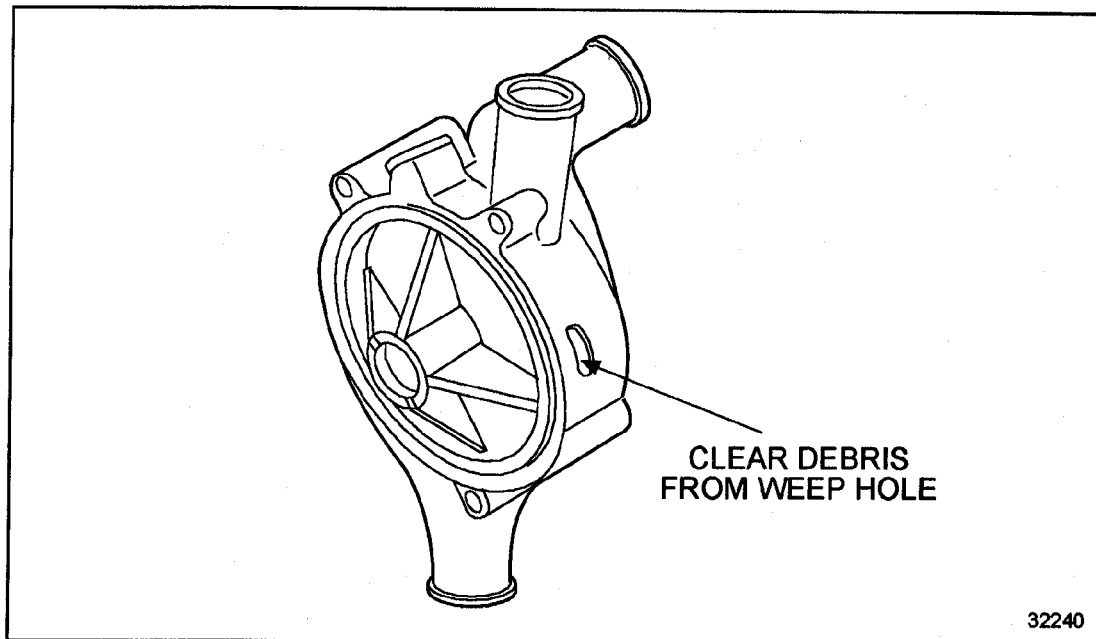

Figure 13-4 Water Pump Weep Hole
1. When accessible, clean any debris or obstruction from the weep hole, being careful not to disturb the seal. This will help address the nature of the leakage. See Figure 13-4.